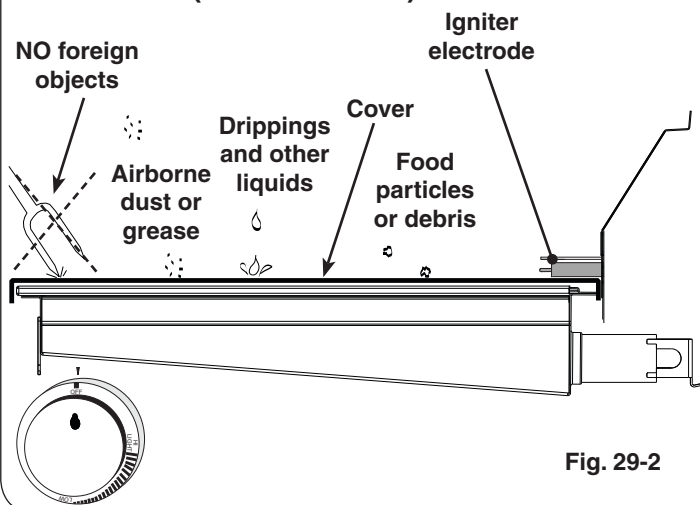

Fig. 29-2
- When not in use, **always** cover the infrared burner with the stainless-steel cover. This protects the burner from drippings (from other cooking), water, airborne particles, and foreign objects (Fig. 29-2).
- Do not strike or scrape the ceramic portion of the burner as it may chip, crack, or break (Fig. 29-2).